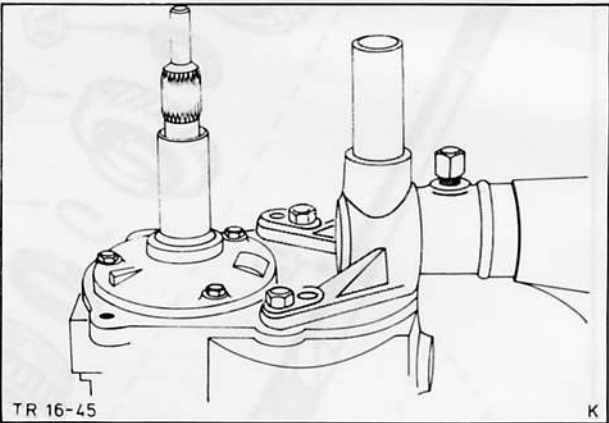

Fig. 67. Secure gearbox to stand with Special Tool No. 16-009
3. Secure gearbox to stand with Special Tool No. 16-009 for further dismantling, Fig. 67.